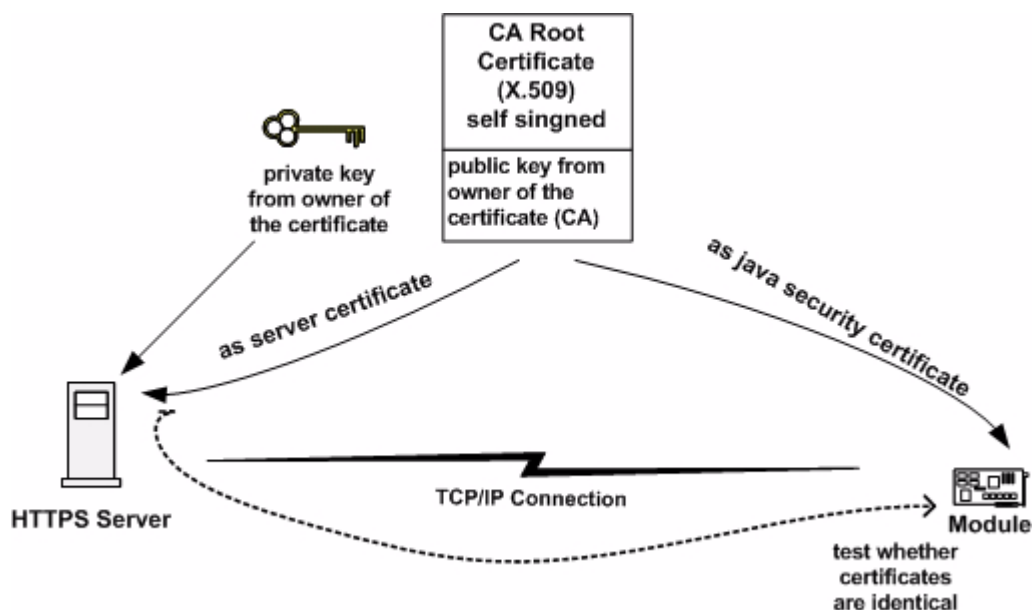
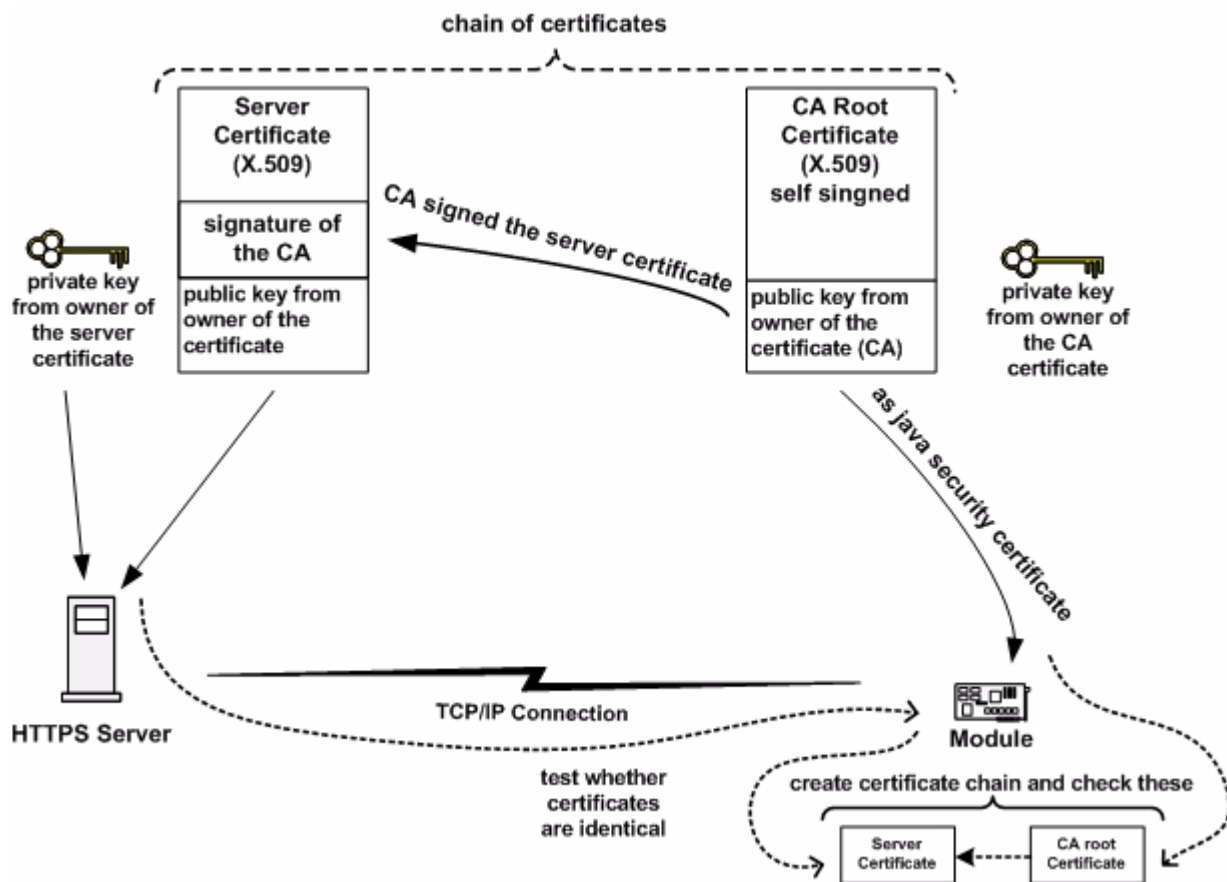

Figure 60: Mode 2 - Server Certificate and Certificate into module are identical
Figure 61: Mode 2 - Server Certificate and self signed root Certificate in module form a chain
- The server certificate is examined when setting up a connection. Two configurations are valid. The server certificate is identical to the certificate in the module (both certificates are self signed root certificates) or the server certificate forms a chain with the certificate of the module. Thus the authenticity of the server certificate can be examined with the help of the certificate of the module. See Figure 60 and Figure 61.